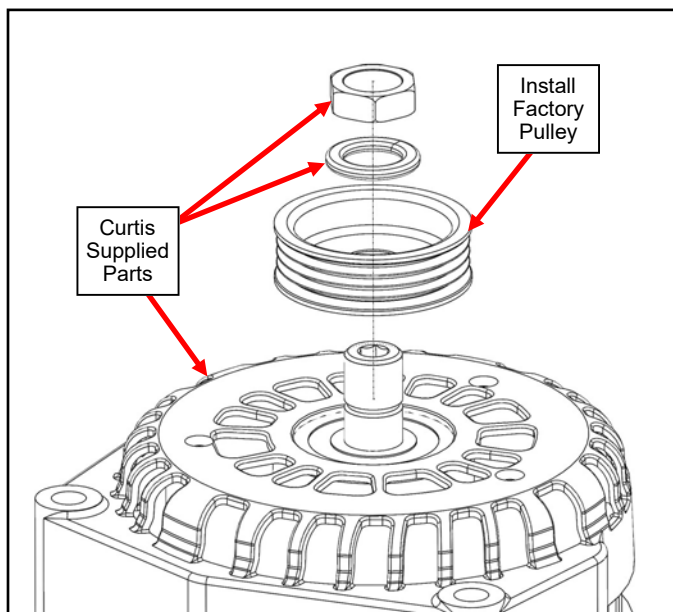

Fig. 2.16 (Install Alternator Pulley and Hardware)
- 2.16 Per fig. 2.16, remove pulley from Curtis supplied alternator and install factory pulley removed from step 2.15. **Note: torque nut on alternator to 68-108 N-m (50 ft-lb to 80 ft-lb)**